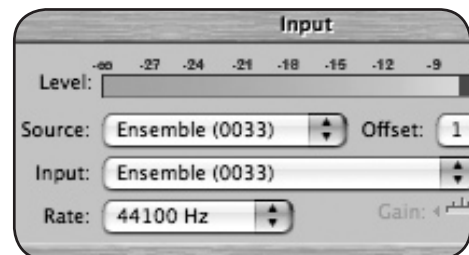

figure 27
2. Recording – Open **Tools > Voiceover** and set **Source** to **Ensemble**. (figure 27)